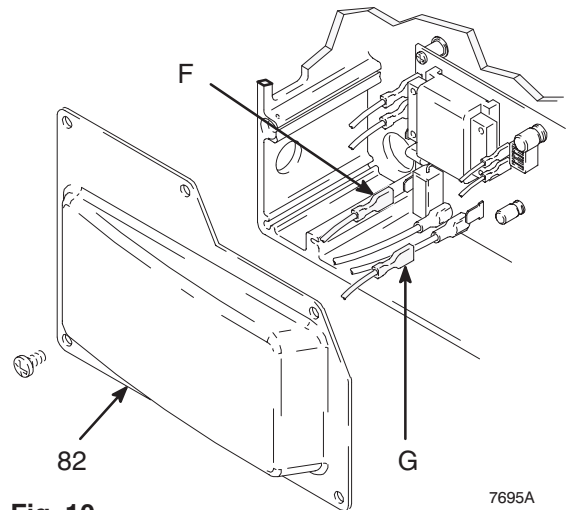

Fig. 10
3. Remove pressure control cover (B). Disconnect motor leads (F) and (G). See Fig. 10.